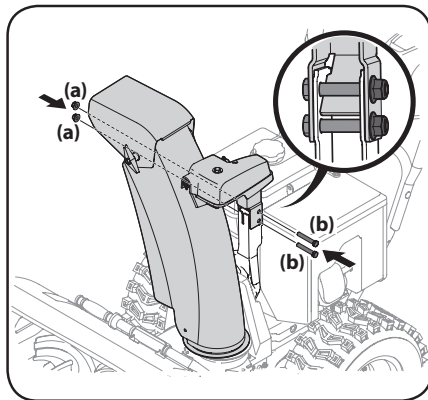

Figure 2-31
3. Secure chute control head to chute support bracket with lock nuts (a) and hex screws (b) removed in Step 1. See Figure 2-31.